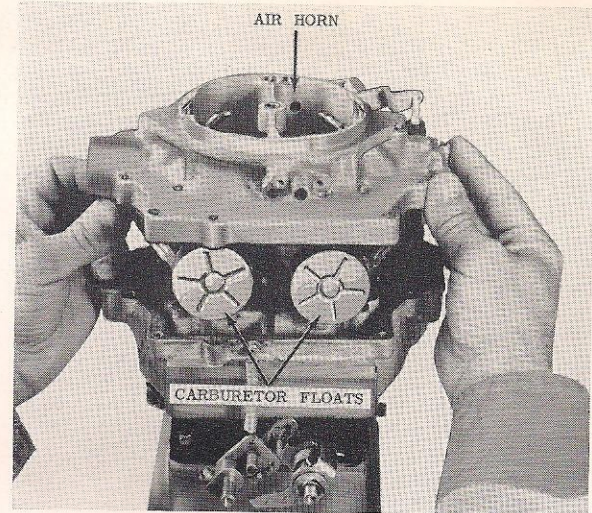

Figure 7-13
17. Carefully remove air horn from float bowl. Lift straight up until float assemblies clear carburetor bowl. (Figure 7-13.)